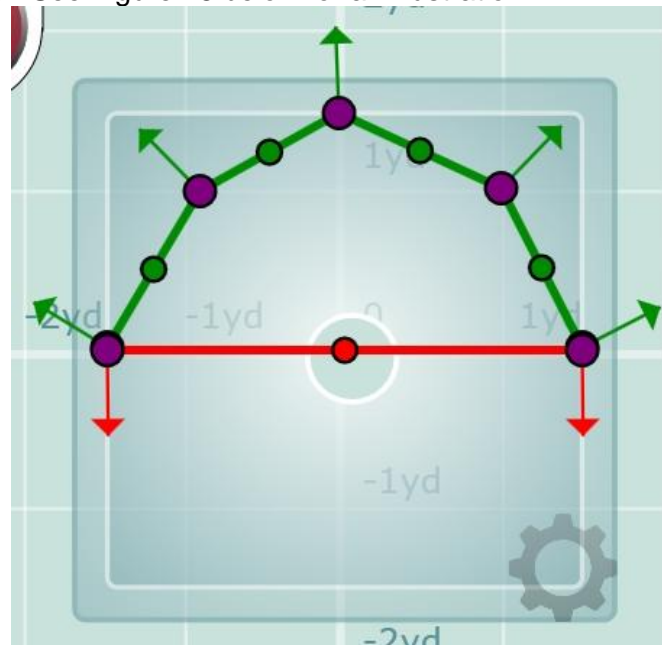

Figure 18
15. The last step of sensor calibration is adjusting the line configuration. To move the line as a whole, click on anywhere on the line that is not a dot. Clicking on the dots on the line(s) allows you to create anchor points; anchor points allow you to create a curved or otherwise customized count line. See Figure 18 below for an illustration.